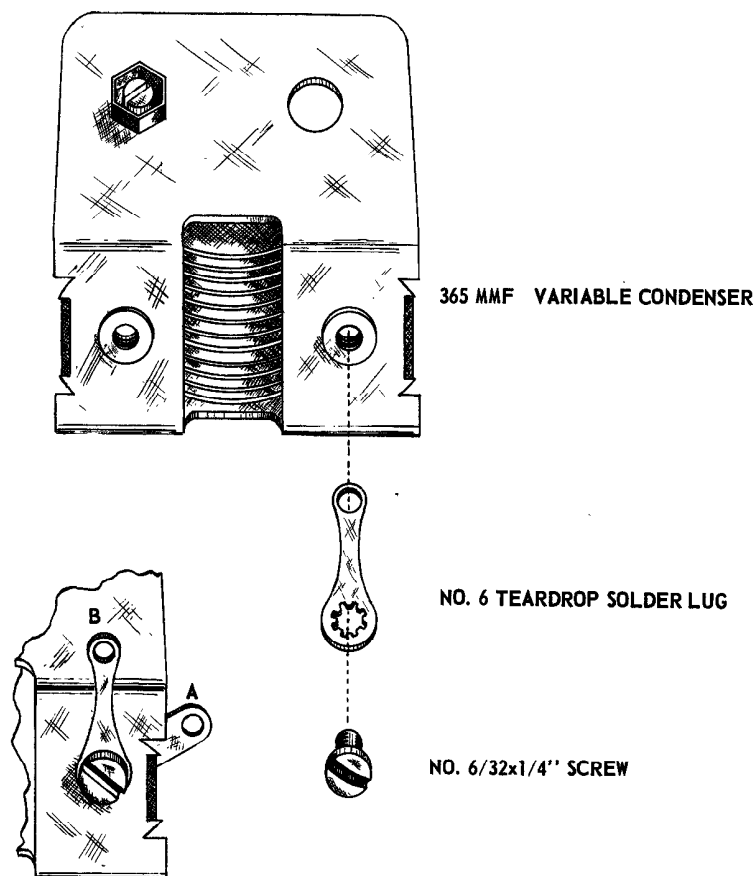

Figure 5.
- 44. Attach a tear drop type #6 grounding lug to the rear frame of tuning condenser TC-1. Use a 6-32x $\frac{1}{4}$ " screw and attach the lug so that it protrudes from the rear frame of the condenser as per Fig. 5. Tighten securely.
- 45. Attach a tear drop type #6 grounding lug to the rear frame of tuning condenser TC-2. Use a 6-32x1/4" screw and attach the lug so that it protrudes from the rear frame of the condenser as per Fig. 5. Tighten securely.